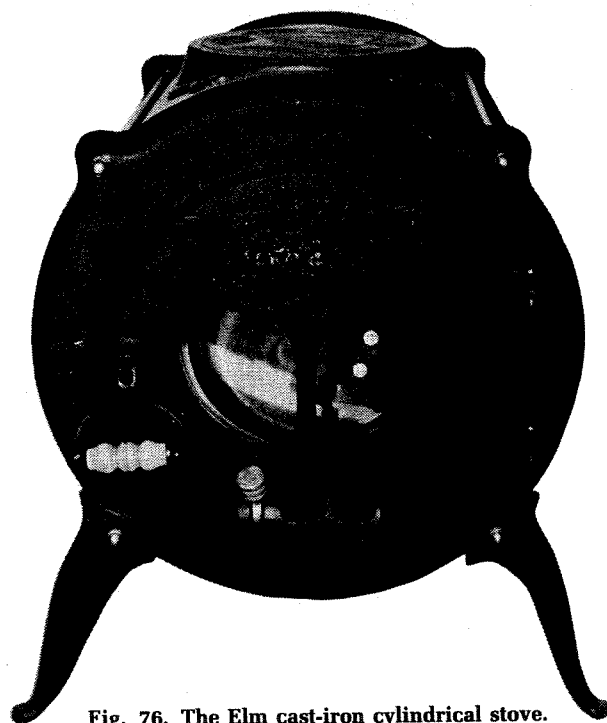

Fig. 76. The Elm cast-iron cylindrical stove.
26. **Vermont Iron Stove Works** (manufacturer), The Bobbin Mill, Warren, VT 05674. The Elm (Fig. 76 and Table 9) is a very sturdy stove and uniquely designed. The Europeans' common complaint that Americans cannot build a beautiful stove is disproved here, for the Elm is truly original. Three other designs are scheduled for later production: the Maple, the Birch, and the Oak.